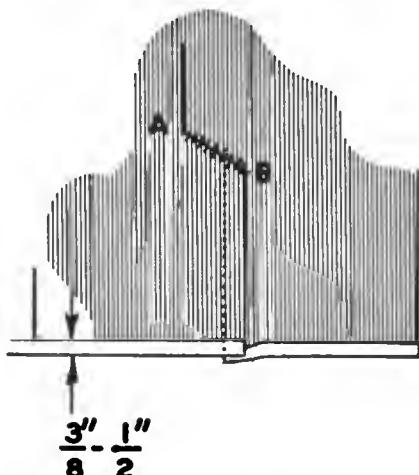

Fig. 257. Basting the lining to the bottom of the coat.
- B. In a man's sport coat with a back vent, clip the lining to baste at an angle from A to B in Figure 257.